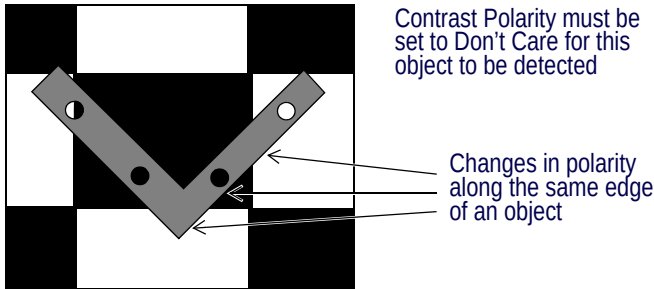

Figure 159 Contrast Polarity - Local Reversals in Polarity
- When **Don't Care** is selected, the Locator will be robust to complete contrast reversal as well as to local contrast reversal, on sections of the object contour, such as shown in the “checkerboard background” example in Figure 159.